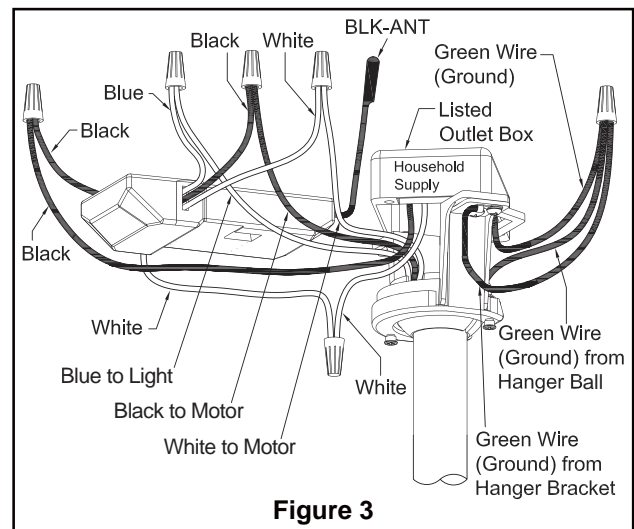

Figure 3
2. Connect green wires from hanger bracket and downrod to bare (ground) wire using wire connector. Connect black wire from receiver unit marked "AC IN L" to black supply wire using wire connector. Connect white wire from receiver unit marked "AC IN N" to white supply wire using wire connector. Connect white wire from receiver unit marked "TO MOTOR N" to white wire from fan using wire connector supplied with receiver unit. Connect black wire from receiver unit marked "TO MOTOR L" to black wire from fan using wire connector supplied with receiver unit. Lastly, connect blue wire from receiver unit to the blue fan light wire using wire connector supplied with receiver unit. (Figure 3)